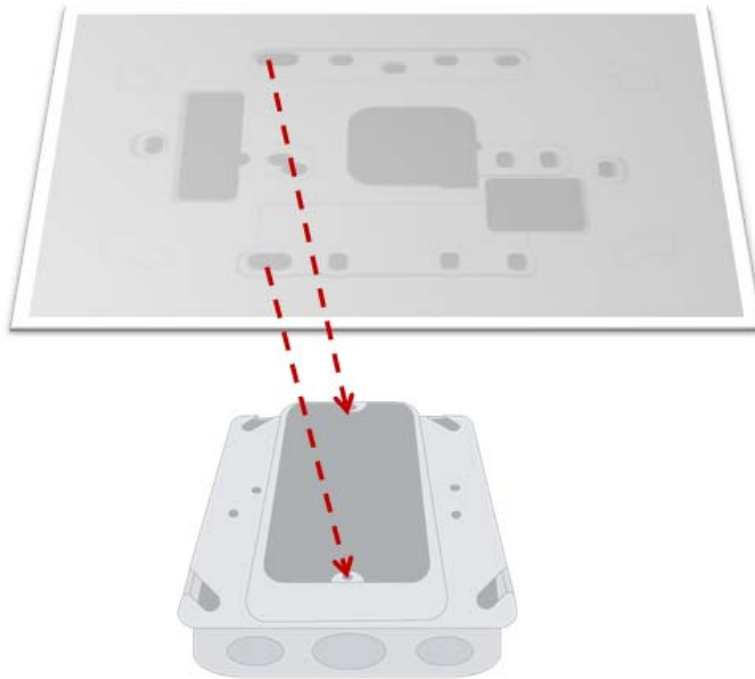

Figure 3: JBOX, Mud Ring, Adapter Plate
<p>High Voltage Installation Option (page 7)</p> <ul style="list-style-type: none">• High Voltage is defined as 30 volts or greater.• There is only one installation option: JBOX with Vertical Mud Ring Mount: requires adapter plate as shown in Figure 3 on page 9.	<p>Low Voltage Installation Options (page 16)</p> <p>There are 3 options; select based on code and desired look:</p> <ol style="list-style-type: none">1) Drywall mount: no conduit required; no JBOX adapter plate required.2) JBOX with Vertical Mud Ring Mount: requires adapter plate as shown in Figure 3 on page 9.3) JBOX with Horizontal Mud Ring Mount:
9. Level the high voltage Telkonet JBOX adapter plate and mount to the mud ring with two #6-32 1" screws. See Figure 3.